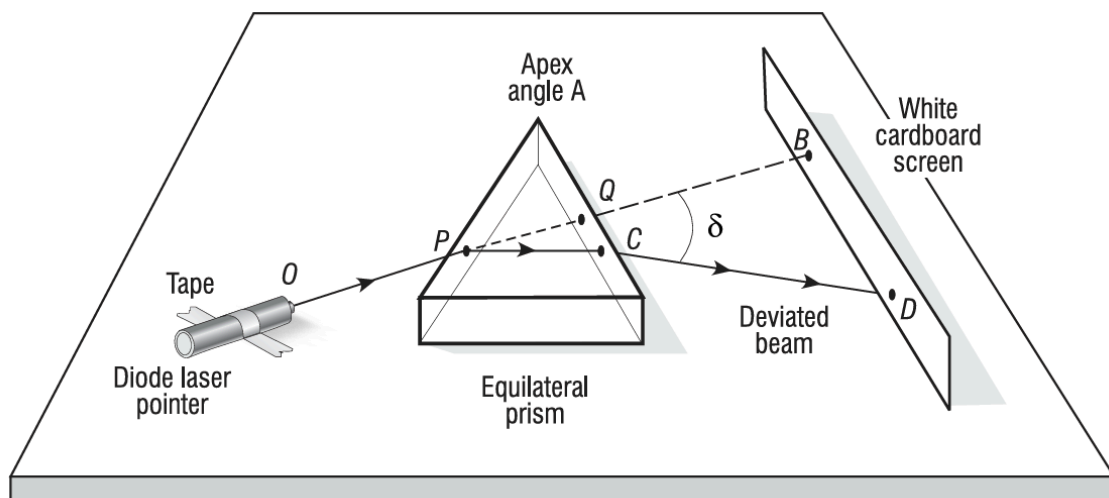

Figure 5.8. Prism Experimental Setup
1. Arrange the laser pointer, equilateral prism, and white cardboard screen on a flat tabletop as shown in Figure 5.8. Center the prism over a sheet of white paper. Fasten down the white paper, cardboard screen, and laser with tape.